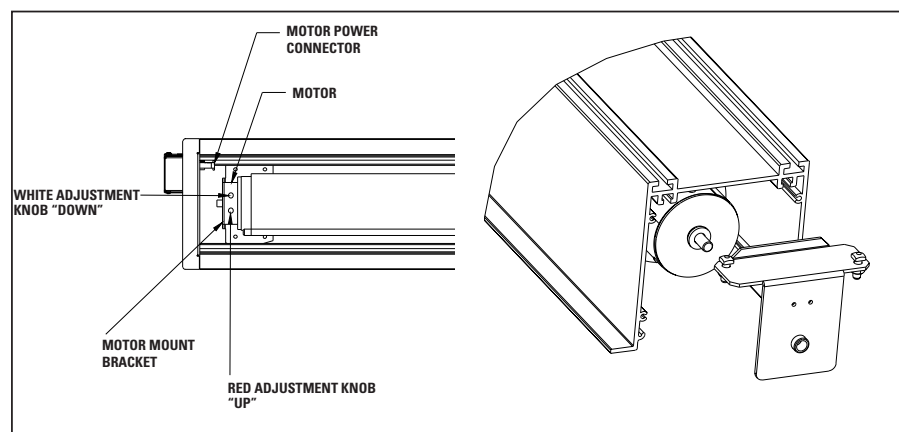

FIGURE 2
2. When the screen stops, turn the white **"down"** limit knob (Fig.2) one turn counterclockwise. Test by raising picture surface approximately two feet, then lower again. Repeat until desired picture surface position is attained.
3. Turn the white **"down"** limit knob (Fig. 2) one turn clockwise. Test by raising picture surface approximately two feet, then lower again. Repeat until desired picture surface position is attained.